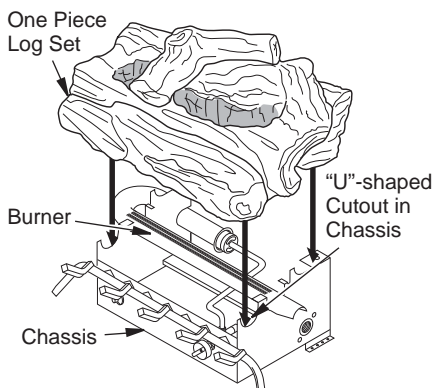
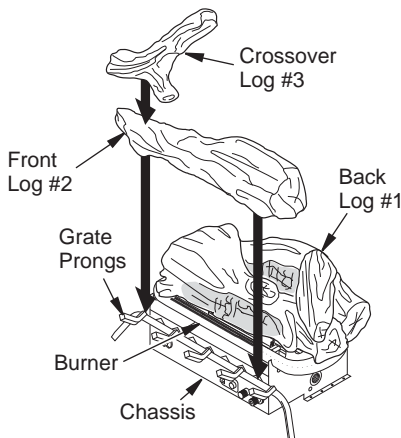
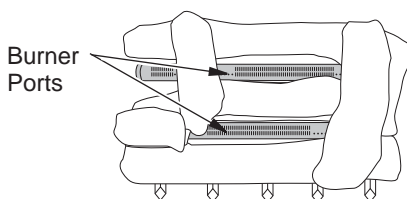

Figure 20 - Installing Vintage Oak One-Piece Log Set
Figure 21 - Installing Golden Oak Log Set
Figure 22 - Installing Log Set, Top View
1. Place one piece log set on grate to fit as illustrated in Figure 20. Make sure bottom of front log is in front of "U"-shaped cutout in center of chassis (see Figure 20). **IMPORTANT:** Make sure log does not cover any burner ports (see Figure 22, page 18).
1. Place back log #1 on grate to fit as illustrated in Figure 21. Make sure middle section at bottom of log set is seated into "U"-shaped cutout in center of chassis (see Figure 21.). **IMPORTANT:** Make sure log does not cover any burner ports (see Figure 22, page 18).
2. Place front log #2 against front grate prongs as shown in Figure 21, page 17.
3. Place crossover log #3 on top of front and back logs as shown in Figure 21, page 17.